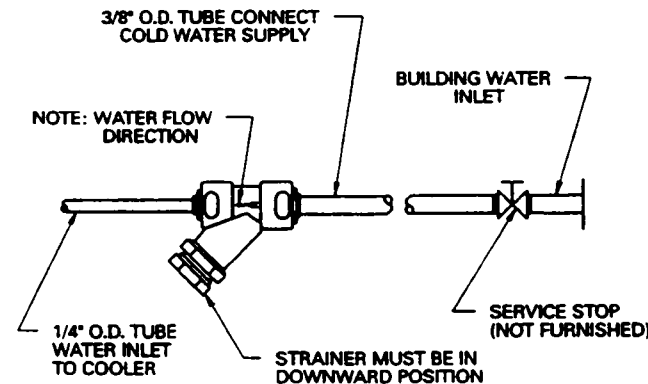

FIG. 2
- 5). Remove the two (2) access panels on the underside of the cooler and set them aside.
- 6). Install a 3/8" O.D. water line between the service stop valve and cooler. (see Fig.2)